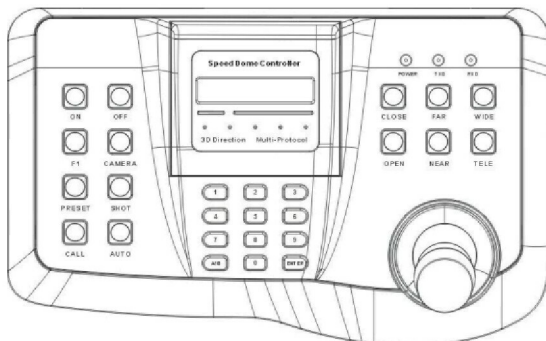

figure 3 Character control keyboard panel
1. front panel introduce (figure 3)